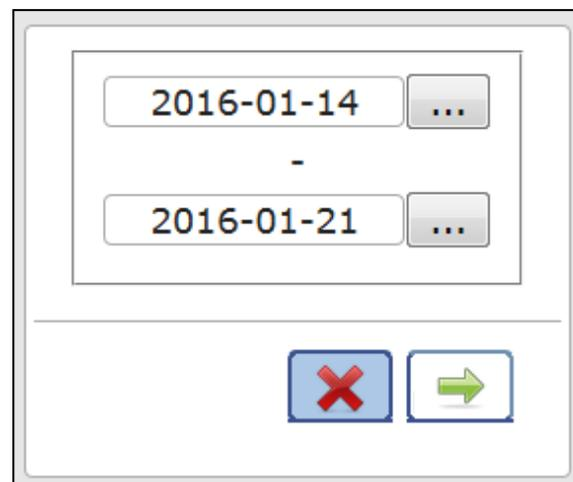

Figure 48: Set period
- Click the date field (A in Figure 47). A pop-up will appear, see Figure 48.